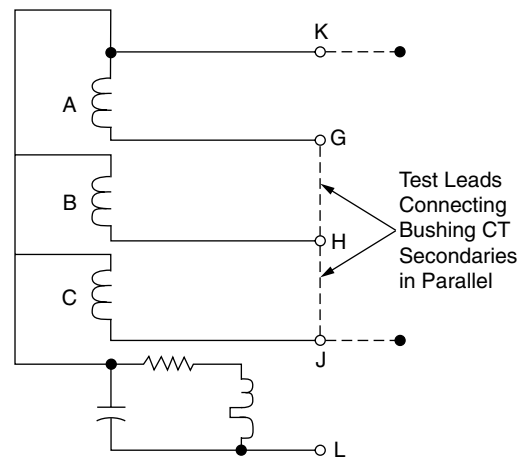

Figure 32. Polarity test circuit for sensing CTs
5. Using a multimeter on the 0-500 milliamp range, check the current output across socket pins K-G, K-H, and K-J as shown in Figure 32.